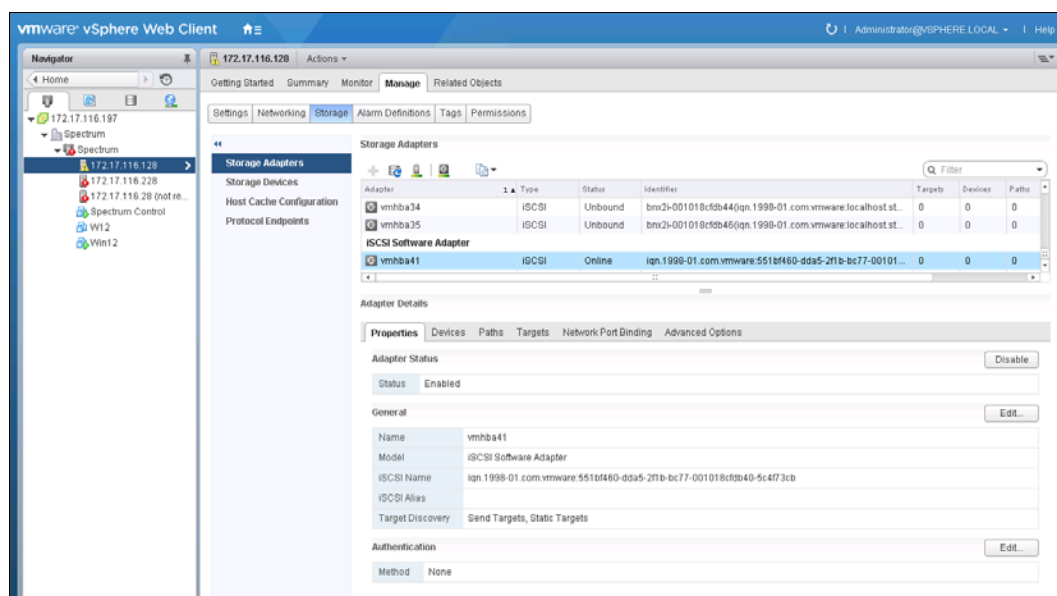

Figure 5-29 VMware: New iSCSI Software Adapter
13. A new iSCSI adapter is added to the Storage Adapters window. See Figure 5-29.